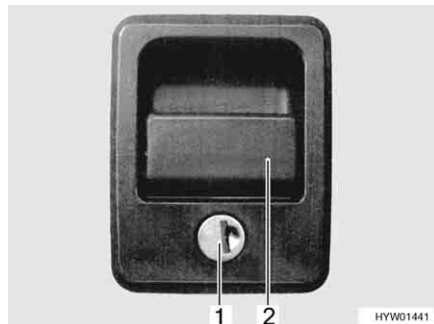

Fig. 49 Flap lock with recessed handle
- Insert key into locking cylinder (Fig. 49, 1) and turn a quarter turn. The flap lock is unlatched.
- Pull on the lock handle (Fig. 49, 2). The external flap is open.